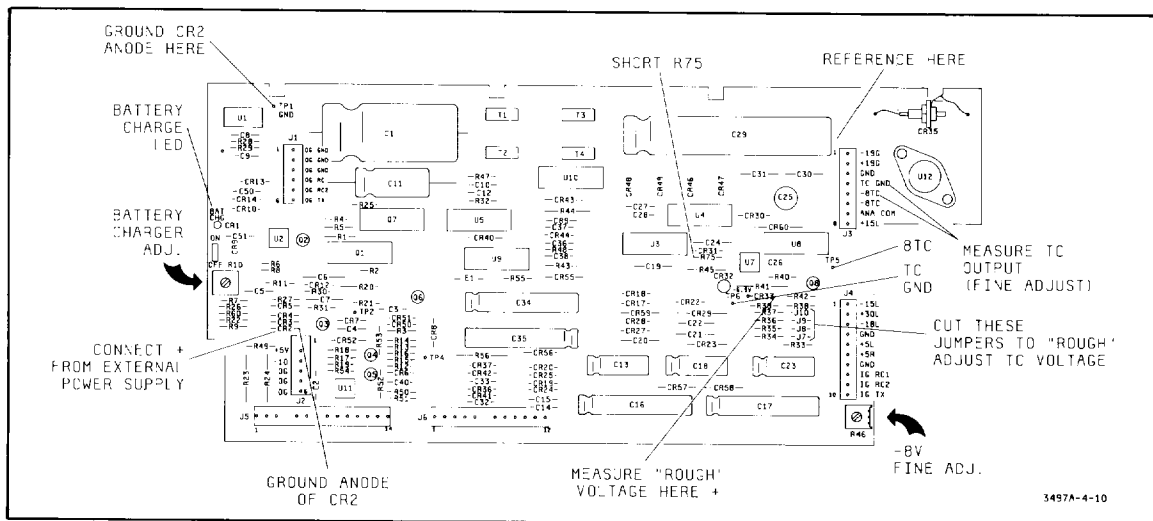

Figure 4-10. Mainframe Adjustment Locations
- e. Refer to Figure 4-10 and locate diode A16CR2. Using a clip lead, connect the anode (TP2) of the diode to chassis ground (TP1), as shown in Figure 4-10.
- f. Set the external power supply to a little less than 5V. Then connect the positive output of the power supply to the cathode (TP3) of A16CR2, as shown in Figure 4-10. Connect the negative output of the power supply to chassis ground.
- f. Connect the test voltmeter to the fourth (TC GND) and fifth (-8TC) pins of A16J3 or connect to TP5 (-8TC) and TP6 (TC GND), as shown in Figure 4-10.
2. Refer to Figure 4-10 and locate resistor A16R75 on the power supply board. Short across the resistor.
3. Next, locate A16C29 and connect the negative lead of the test Digital Voltmeter to the negative lead of the capacitor, as shown in Figure 4-10. Then locate diode CR33 and connect the positive lead of the voltmeter to the cathode of the diode, as shown in the figure.